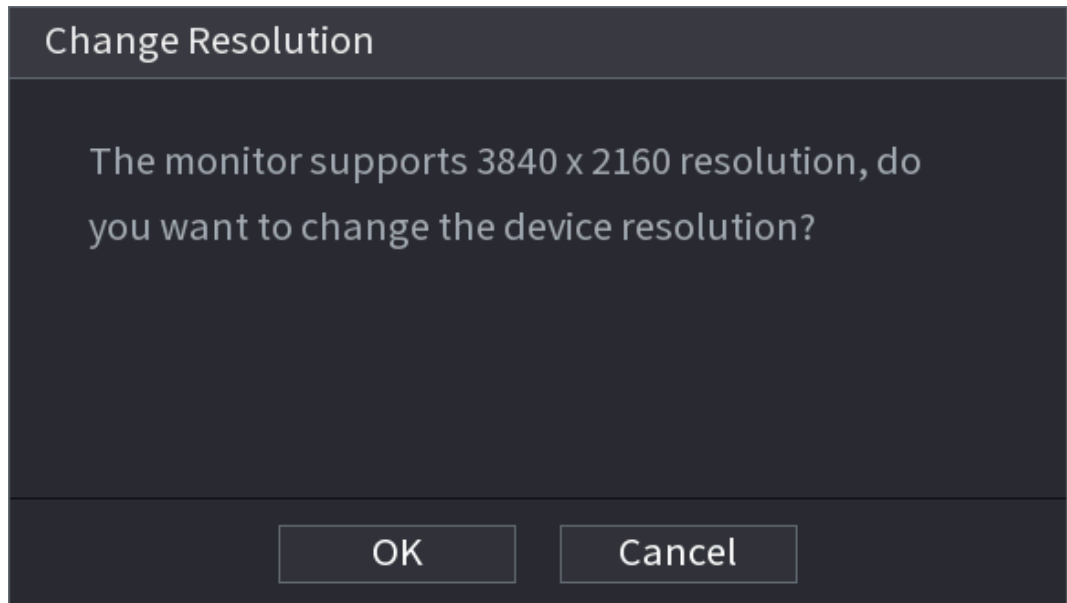

Figure 5-36
Step 5 (Optional) After the setting with startup wizard is completed, if the connected HDMI display resolution is inconsistent with default resolution (1280*1024), a dialog box will pop up. See Figure 5-36. Choose to switch the resolution or not.